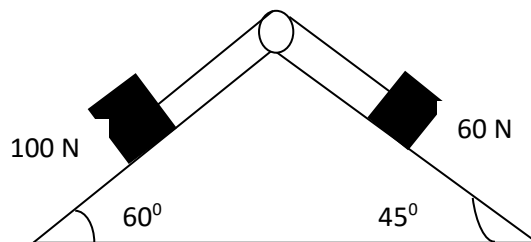

Figure 7
- 15 a) What is meant by instantaneous centre? Explain any one method of locating the instantaneous centre. (5)
b) In a simple reciprocating engine, the crank is 300 mm. radius and the connecting rod 1500 mm. long. If the crank rotates uniformly at 300 rpm, find the velocity of piston when the crank is inclined at 30° with the inner dead centre. (5)
- 16 Two rough planes inclined at 45° and 60° to horizontal are placed as shown in **Figure 7**. Two blocks of weights 60 N and 100 N respectively are placed on the faces and are connected by a string and passing over a frictionless pulley. If the coefficient of friction between planes and blocks is 0.35, find the resulting acceleration and tension in the string. (10)
- 17 a) A particle has simple harmonic motion. Its maximum velocity was 6 m/s and the maximum acceleration was found to be 12 m/s^2 . Determine the angular velocity and amplitude. Also determine its velocity and acceleration when displacement is half of the amplitude. (5)
b) The strength of a spring is such that a load of 50 N is required to elongate it by 10 mm. When a certain load W is suspended from one end and caused to perform SHM, the complete oscillations per minute is 100. Calculate the stiffness of the spring and the value of load W. (5)